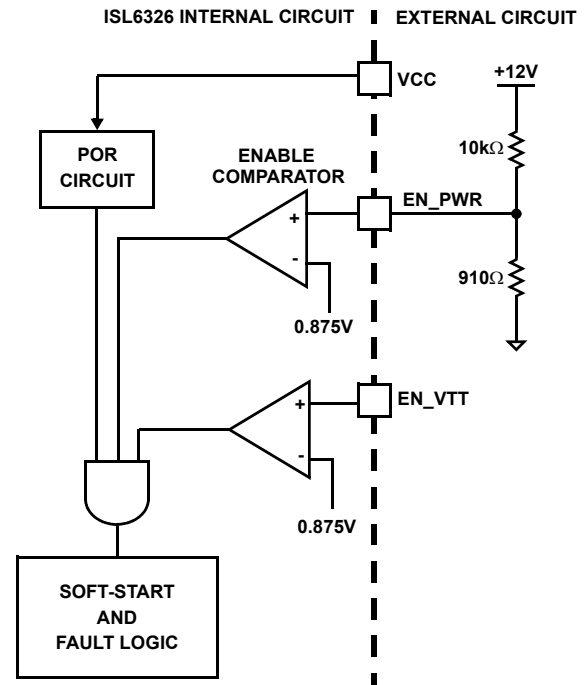

FIGURE 7. POWER SEQUENCING USING THRESHOLD-SENSITIVE ENABLE (EN) FUNCTION
2. The ISL6326 features an enable input (EN_PWR) for power sequencing between the controller bias voltage and another voltage rail. The enable comparator holds the ISL6326 in shutdown until the voltage at EN_PWR rises above 0.875V. The enable comparator has about 130mV of hysteresis to prevent bounce. It is important that the driver ICs reach their POR level before the ISL6326 becomes enabled. The schematic in Figure 7 demonstrates sequencing the ISL6326 with the ISL66xx family of Intersil MOSFET drivers, which require 12V bias.